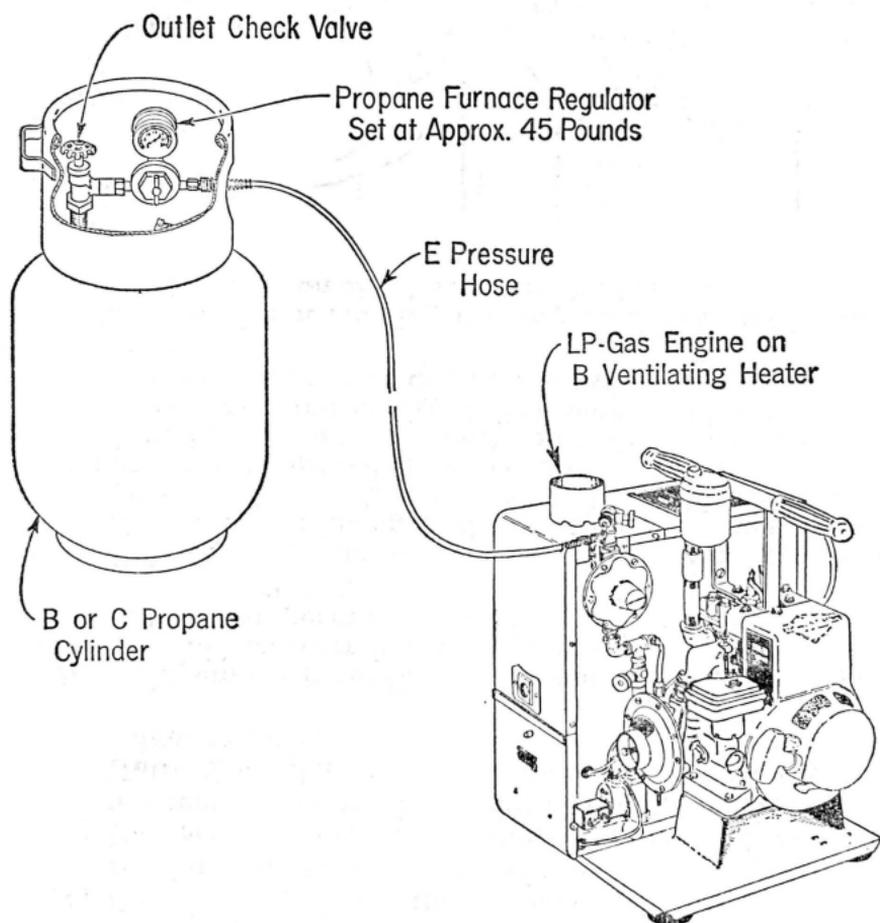

Fig. 3
- (1) **Make certain there is a sufficient amount of clean oil in the crankcase.**
- (2) Connect one end of the E pressure hose to the propane furnace regulator on the propane cylinder, connect the other end of the fuel filter on the engine. Refer to the section covering propane cylinders for specific information on this matter. A typical setup is illustrated in Fig. 3.